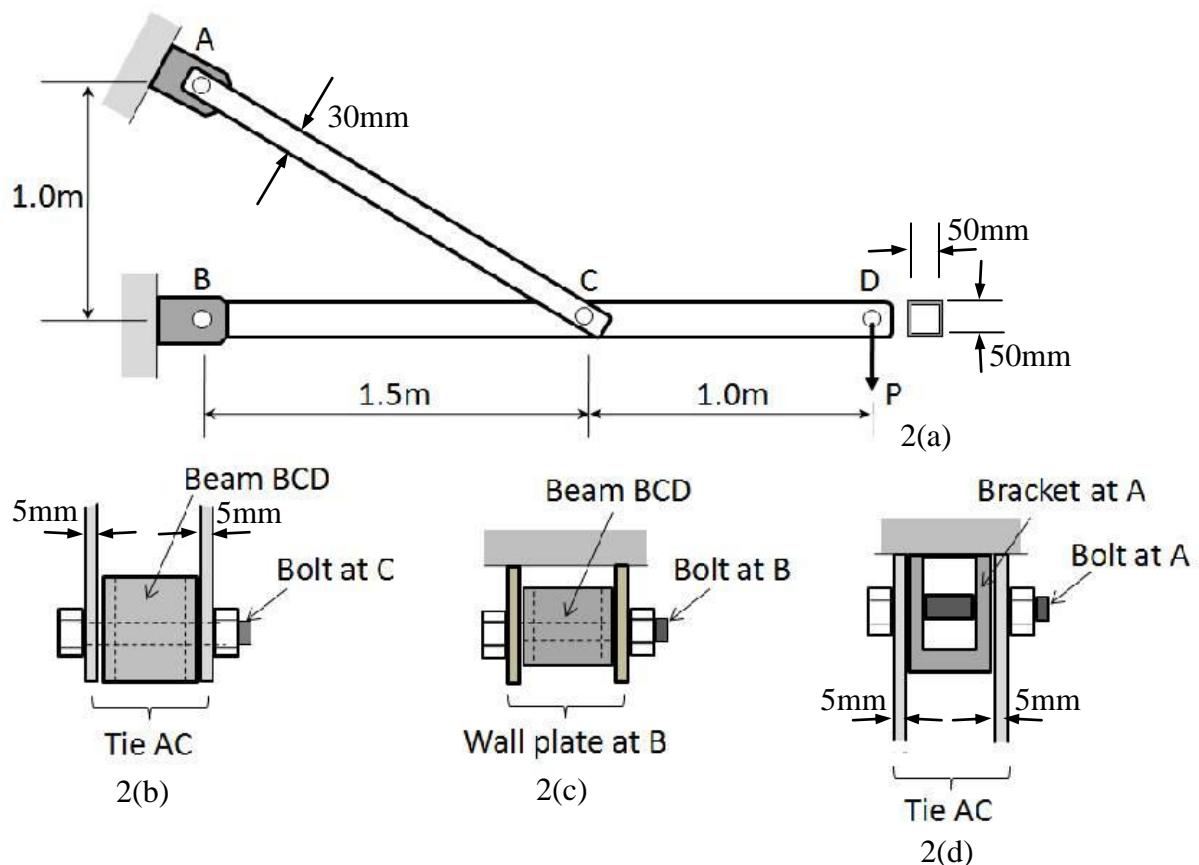

Figure 2
- (b) Figure 2(a) shows a rigid beam BCD suspended at point C by a pair of ties AC. The rigid beam is pinned supported at B and the ties AC are pinned supported at point A. Cross-section of the rigid beam BCD is a square tube section of  $50\text{mm} \times 50\text{mm}$  with wall thickness of 4mm. Details of connection at C, B and A are shown in Figure 2(b), 2(c) and 2(d), respectively. Diameters of bolts at C,B and A are all 12.5mm. A load  $P=50\text{kN}$  acts at point D of the rigid beam BCD. Determine: